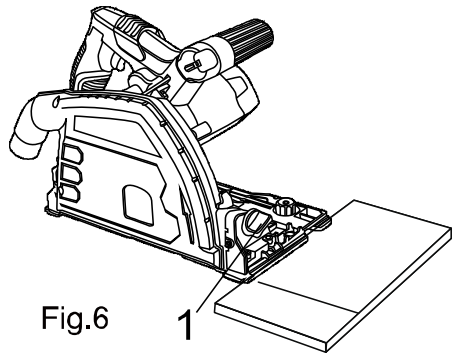
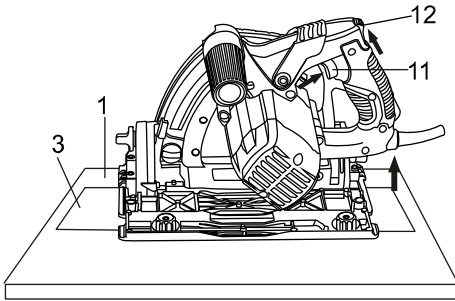
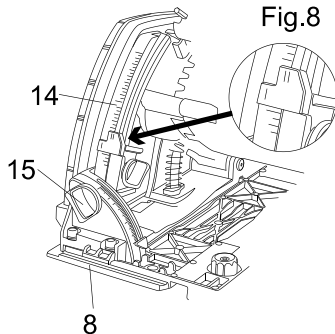

Fig.6
Fig.7
Fig.8
2. Set the saw on the workpiece (1) so the base plate is flat on the workpiece (Fig. 6).
3. Align the saw blade with the cutting line (3).
4. Press the plunge release (12) and switch trigger (11) to start the saw and slowly lower the blade onto the workpiece to allow the blade to cut into the workpiece (Fig. 7). Allow the blade to cut through the wood.
Alter the depth of the cut by loosening the Depth Locking Knob (15), (Fig.8). The Base Plate (8) is now free to adjust to the required depth when the Plunge Release (12) is pressed. (Fig.7)
Adjust the Base Plate to the required depth using the Depth Scale (14) or a ruler and retighten the Depth Locking Knob at the base so it cannot exceed that depth. (Fig.8)